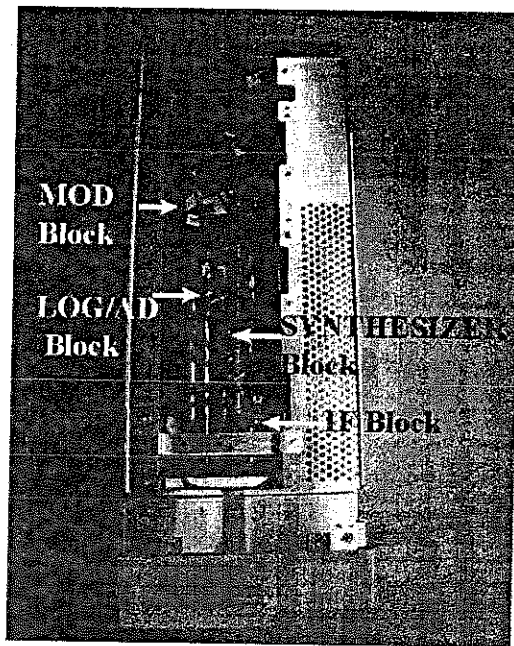

Figure 5-11 Location of the Blocks
2. Remove boards stopper, referring Figure 5-11.
3. Each board location is shown Figure 5-11.